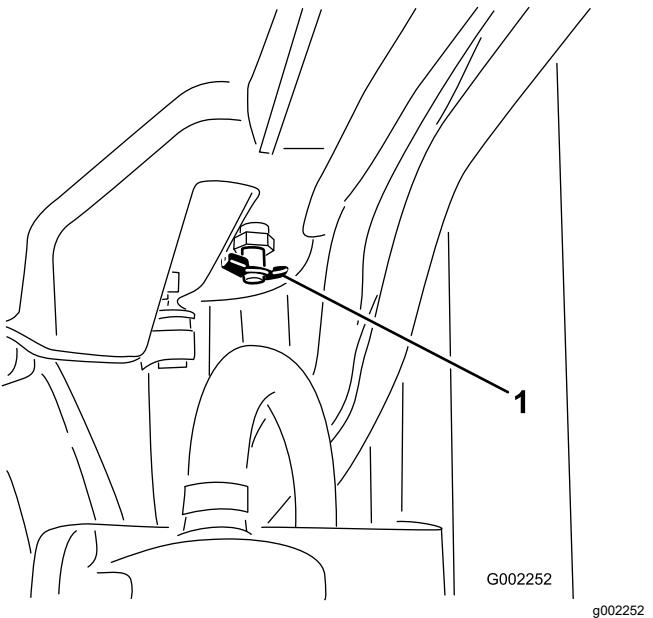

Figure 94
- Open the drain valve and drain the coolant into the pan (Figure 94).
- Close the drain valve (Figure 94).